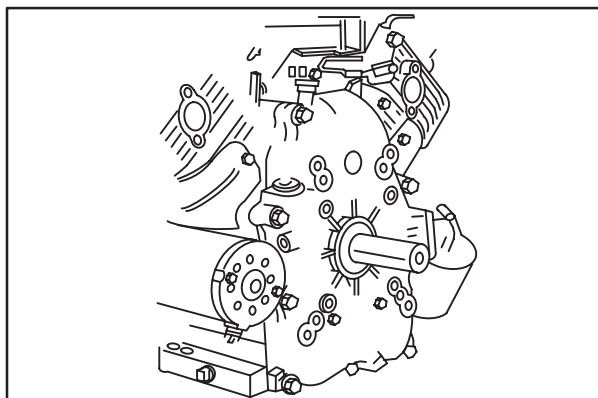

Fig. 6
7. Remove crankcase cover, **Fig. 6**.